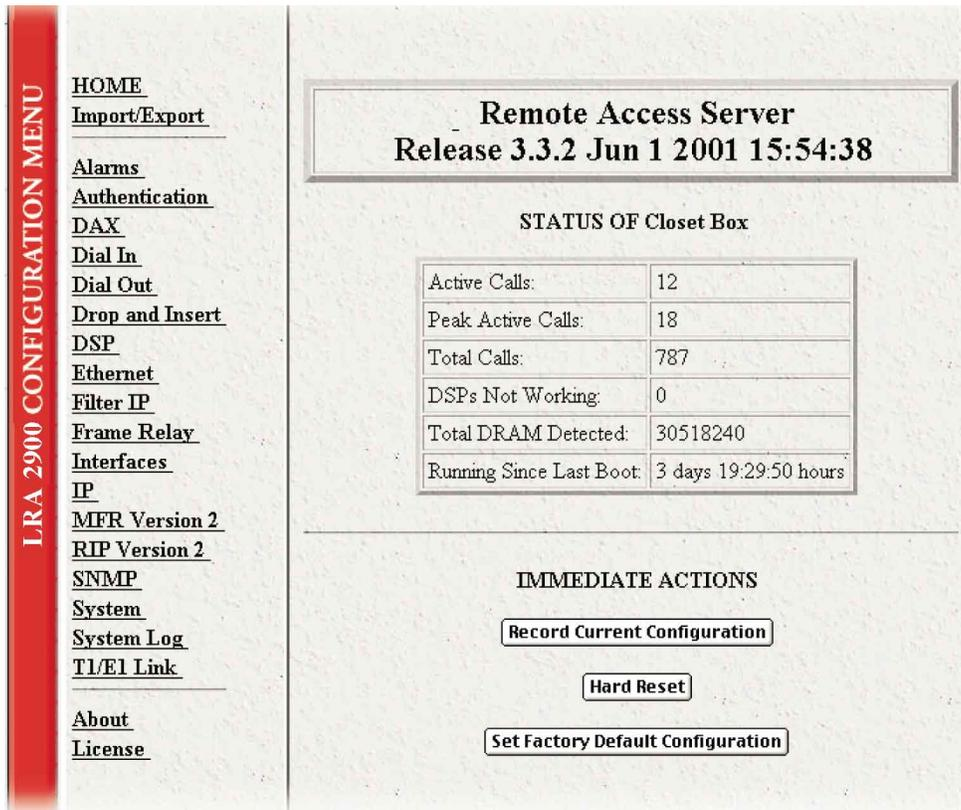

Figure 17. Home page
3. When the username and password window displays, type **superuser** as the username and password, then press <RETURN>. The Administration Pages Home window appears (see figure 17).